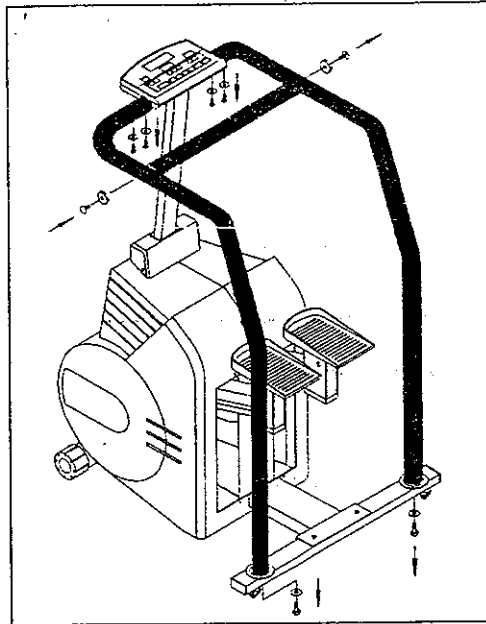

Fig.1
1. Remove all the screws securing the handlebars and rear base (see Fig. 1).